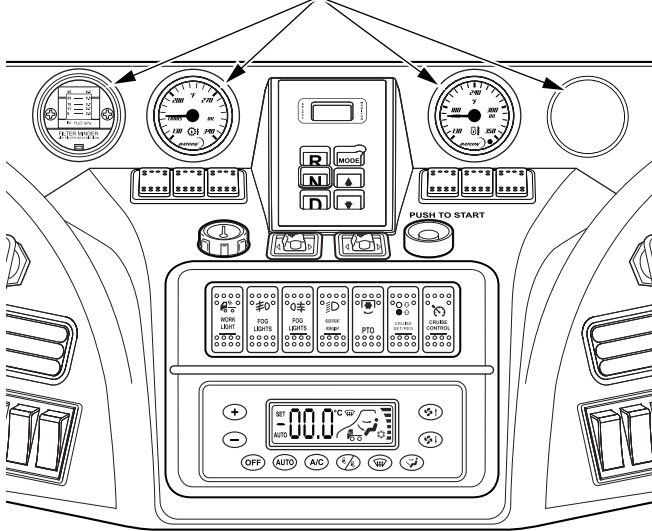

Figure 8-5
6. Remove the gauge panel caps and set aside for reinstallation (see Figure 8-5).